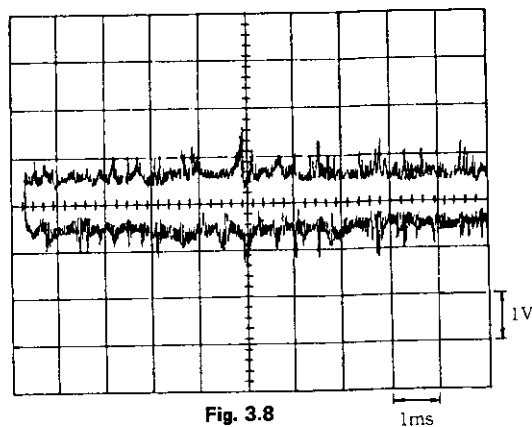

Fig. 3.8
- (1) Load the Philips Test Sample 5 test disc (non-scratched), observe the noise voltage on the voltmeter, and adjust VR103 so that the noise voltage on TP103 (Tracking) and TP102 (GND) is $0.26V_{RMS} \pm 0.01V$ (Fig. 3.8).